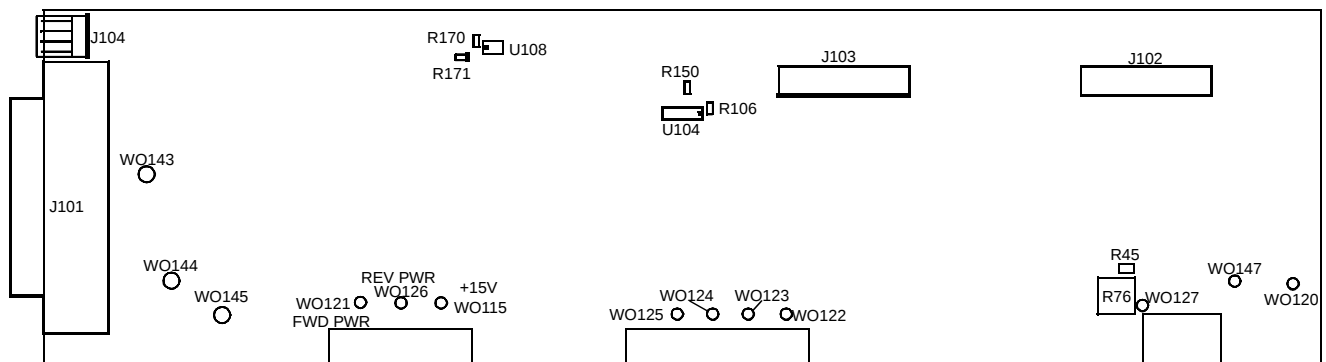

Figure 5 RF INTERFACE BOARD ALIGNMENT POINTS
5. Monitor the voltage on R45 on the RFIB and set R76 for 1.3V DC (see Figure 5).
3. Monitor the voltage at R45 on the RFIB and set R76 for 1.3V DC (see Figure 5).
12. Adjust Reverse Power Calibration Pot RV602 for equal voltages on W121 and W126 on the RFIB or for equal Forward and Reverse Power (see Figure 5).